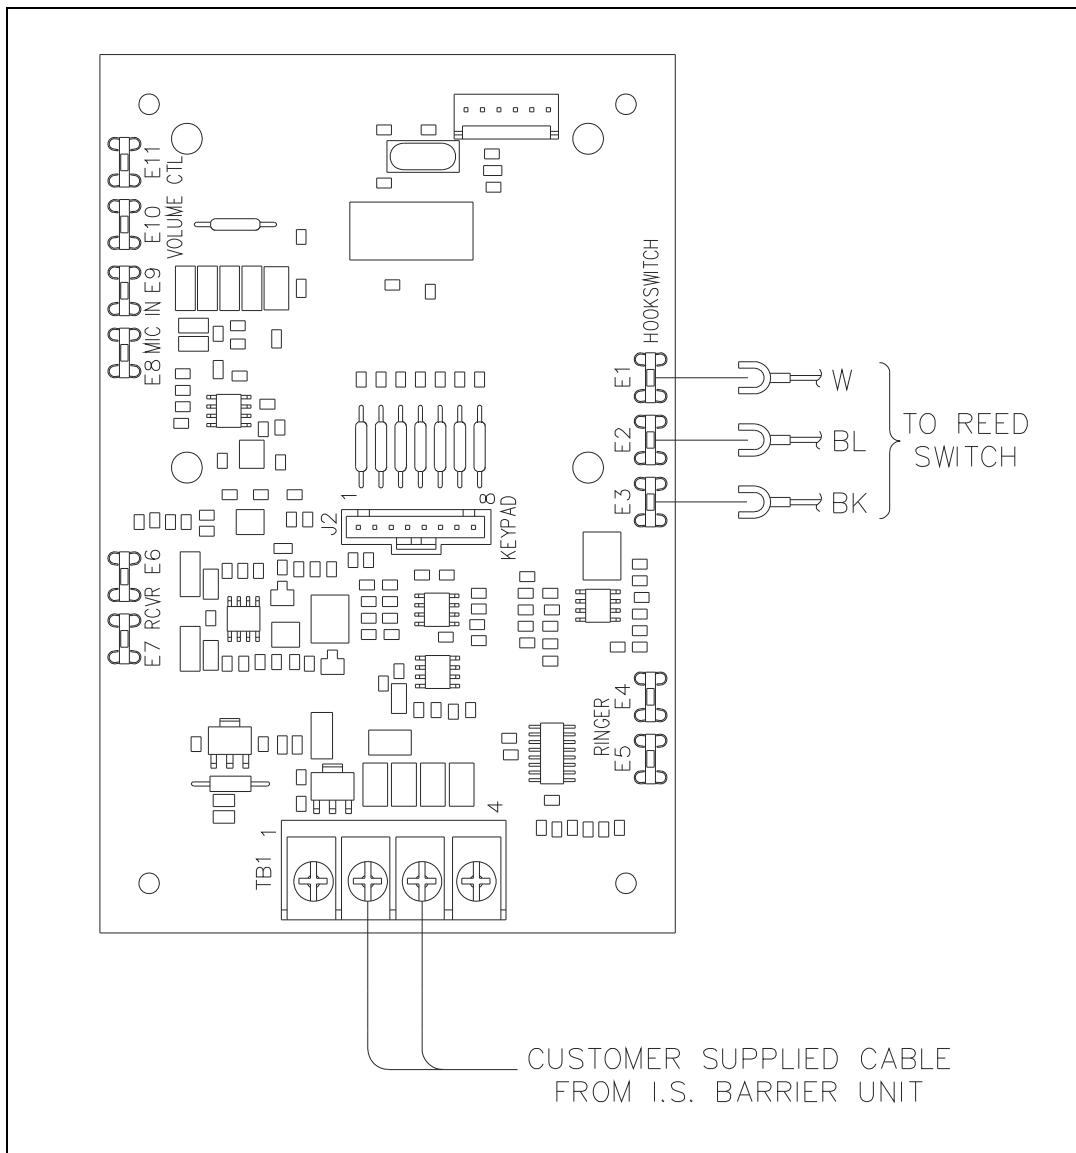

Figure 3. I.S. Telephone PCBA (for Models 262-001 and 272-001 only)
2. Disconnect the customer supplied wires from TB1 (See Figure 3).
3. Plug spades on the blue, white, and black wires into E1, E2, and E3 respectively on the PCBA (See Figure 3).
5. Reconnect the wires from the I.S. barrier unit (customer supplied cable) to TB1 (See Figure 3).